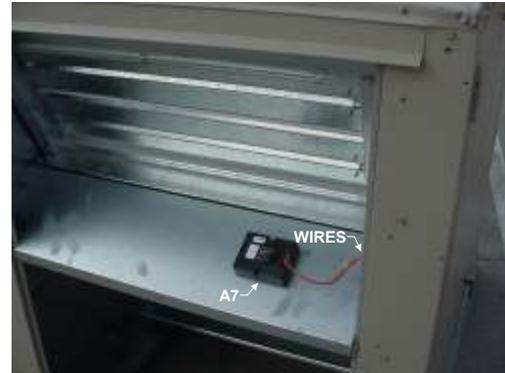

Figure 2
4. The economizer may use an A7 enthalpy sensor located on the division panel between the economizer outdoor air and return air dampers. If present, the sensor must be moved to the intake air section of the ERS. Disconnect sensor A7 wires from logic module, remove screws securing the sensor, and retain sensor assembly and screws. See Figure 2.
9. Locate the A7 enthalpy control sensor (if removed earlier from the rooftop unit.) **See Figure 2.**